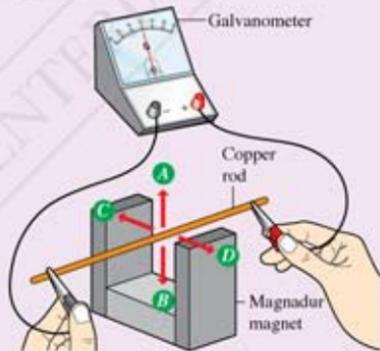

Figure 4.16
1. Set up the apparatus as shown in Figure 4.16.
2. Hold the copper rod stationary between the poles of the magnet as shown in Figure 4.16. Observe the reading of the galvanometer.
3. Move the copper rod quickly in direction *A* as shown in Figure 4.16. Observe the deflection of the galvanometer pointer.